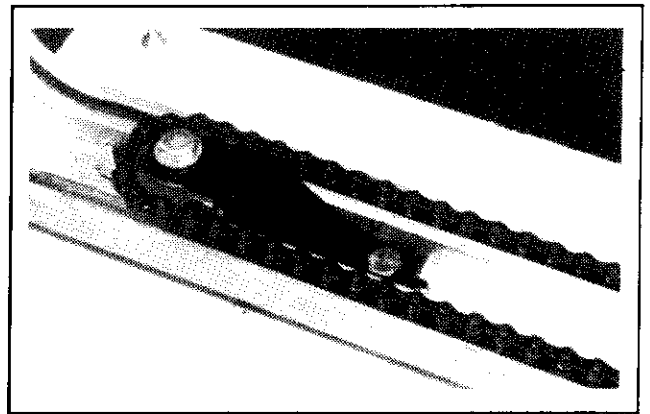

Figure 12. Chain Adjustment
i. Check and make certain that the idler sprocket is adjusted so that the chain is tight (see para.5B.5). Tighten idler sprocket bolts (figure 12).
5. Chain Adjustment (figure 12).